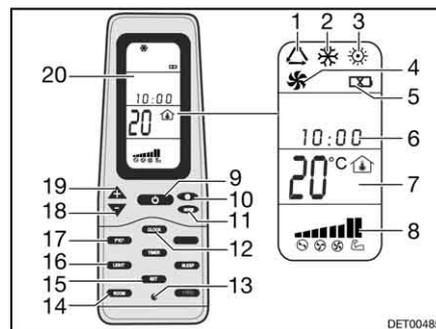

Fig. 195 Remote control
- Press the ON/OFF button (Fig. 195,9).
- Press the "Mode" button (Fig. 195,11) as often as required until the required mode (Fig. 195,1, 2, 3 or 4) is indicated on the display (Fig. 195,20).
- Use the "+" (Fig. 195,19) and "-" (Fig. 195,18) buttons to set the desired temperature.
- Use the fan speed button (Fig. 195,10) to select the desired fan level.